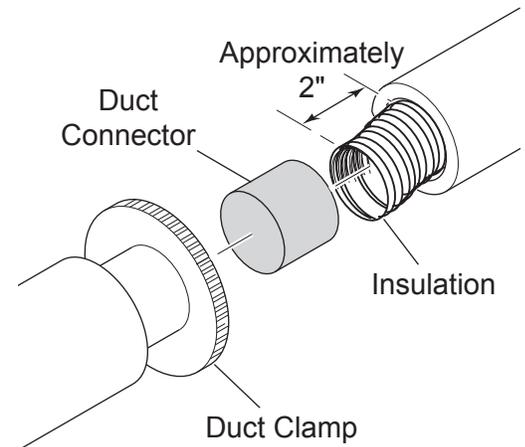

Figure 23 - Installing Duct Connector 403
7. If the duct is the insulated type, push the insulation back from one end of the duct approximately 2". See *Figure 23*.